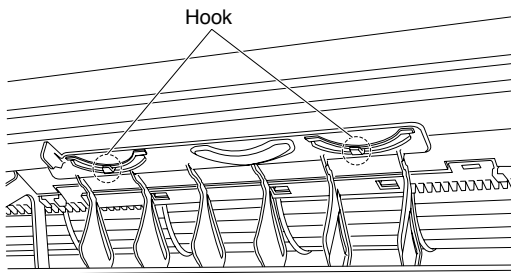
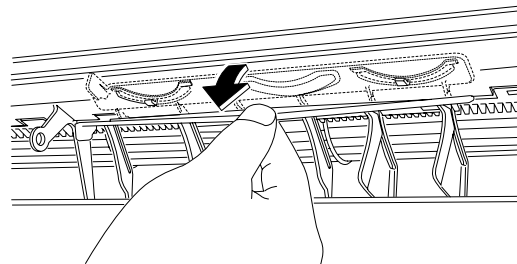

Fig. 13
Fig. 14
- (1) Unfasten the hooks at the upper 2 positions. (Fig.13 and Fig.14)